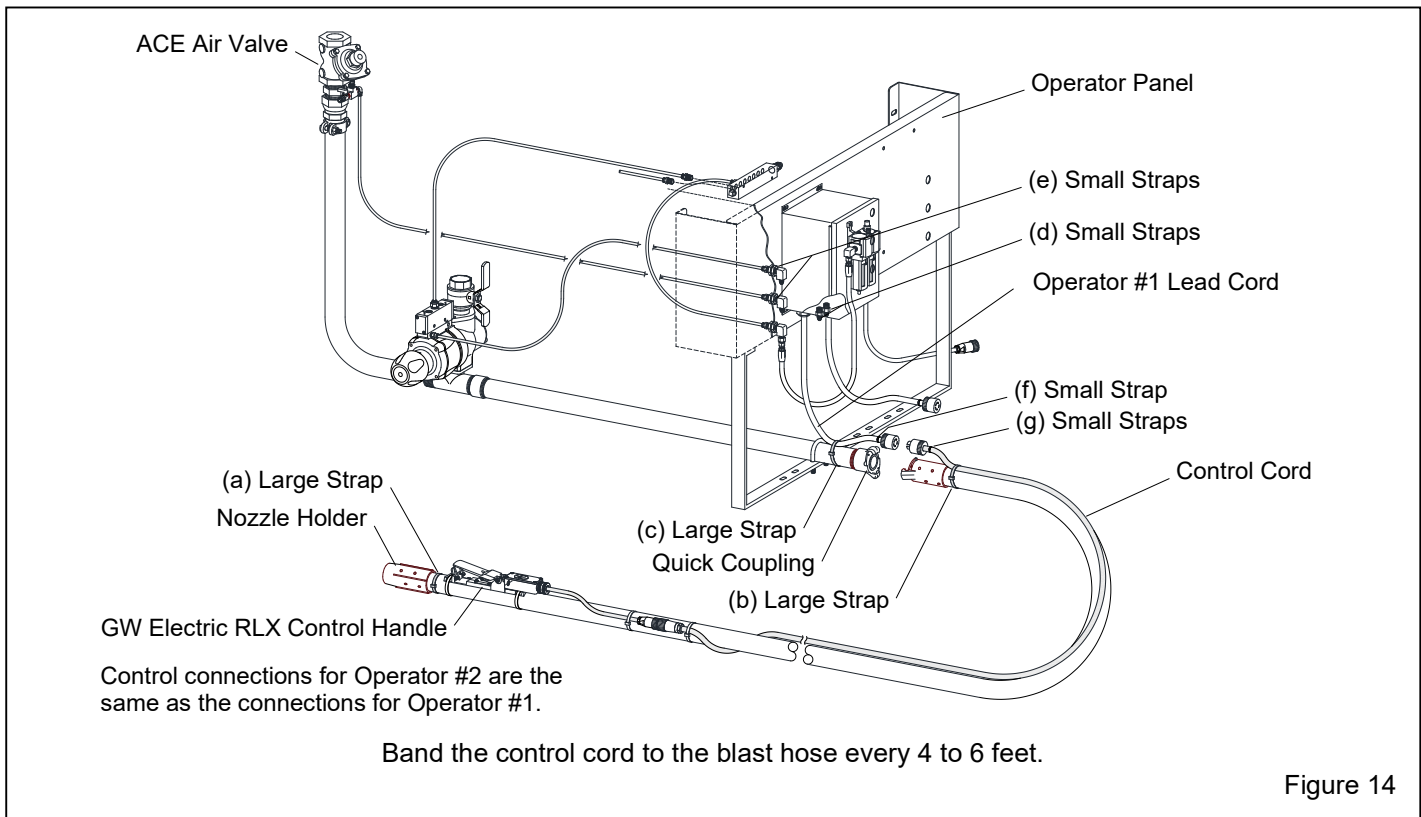

Figure 14
2.5.3 Connect the blast hose to the blast machine **Figure 14**
2.6 Color-Grouping Electric Operator Stations **Figure 14**
2.6.3 The hose identification kit contains sets of colored straps. Use straps of the same color to color-code the blast hose, control hoses and cords for each operator station. Use red and blue with two operator stations, use green and yellow for operator stations three and four. The letters correspond to the letters shown in parenthesis in Figure 14.